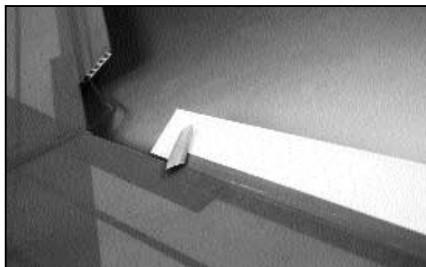

fig.5
- ❑ 5. Finish each wing with a single piece of tape wrapped around the whole length of the leading edge and a single piece of tape wrapped around the centre of the trailing edge extending approximately 150mm out from the centre line as can be seen in fig. 5.
- 4. Using the supplied covering tape, cut a narrow strip approximately 25mm wide to make a top hinge the full length of each elevon (see fig. 5, 6 & 7). Ensure that the elevon can move freely in BOTH directions.
- 7. The receiver aerial is best routed back along the centre of the wing and down one of the elevon flutes (see fig. 5 on page 4).